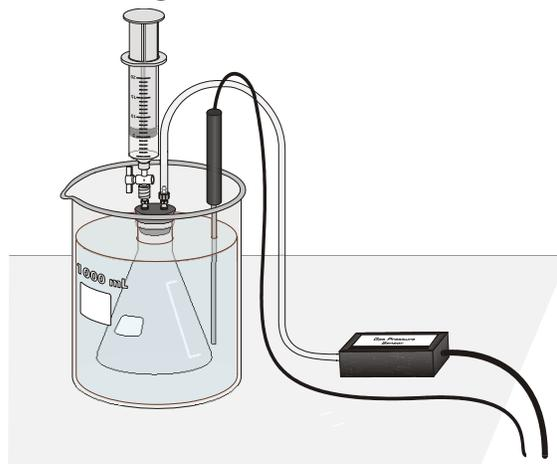

Figure 3
6. Finish setting up the apparatus shown in Figure 3:
- Hold the flask in the water bath, with the entire flask covered as shown in Figure 3.
7. Obtain the methanol container and the syringe. Draw 3 mL of the methanol up into the syringe. With the two-way valve still closed, screw the syringe onto the two-way valve, as shown in Figure 3.